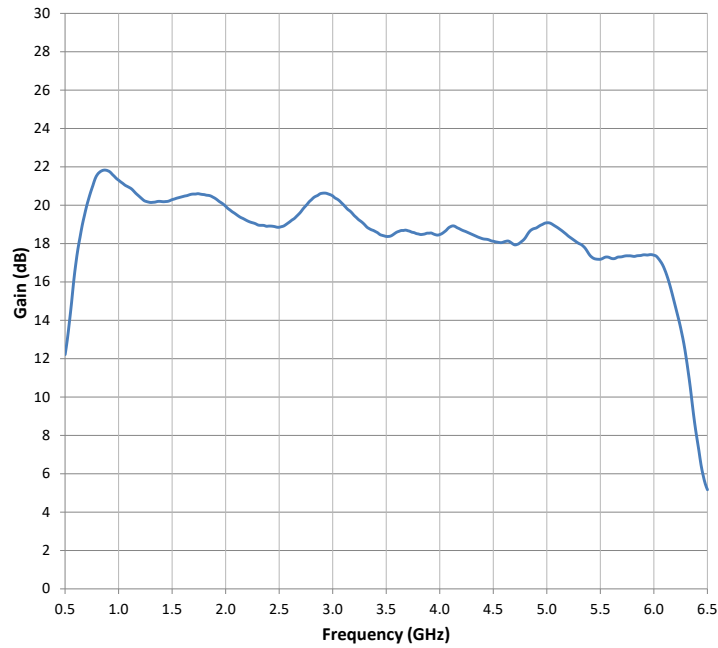

Figure 4-3. Typical Response: Input A3 Front Panel RF Output
- Remove the coaxial cable from the output of the K1 connector to the input of the A3 Four-Way Splitter. The typical response from the input of the A3 Four-Way Splitter to the RF Output connector on the unit's front panel is shown in Figure 4-3.